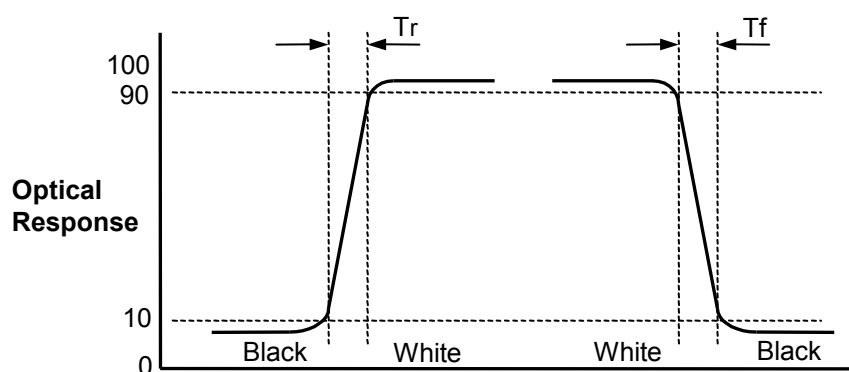

FIG. 11 Response Time
4. Response time is the time required for the display to transit from G(255) to G(0) (Rise Time,  $Tr_R$ ) and from G(0) to G(255) (Decay Time,  $Tr_D$ ). For additional information, see the FIG. 11.